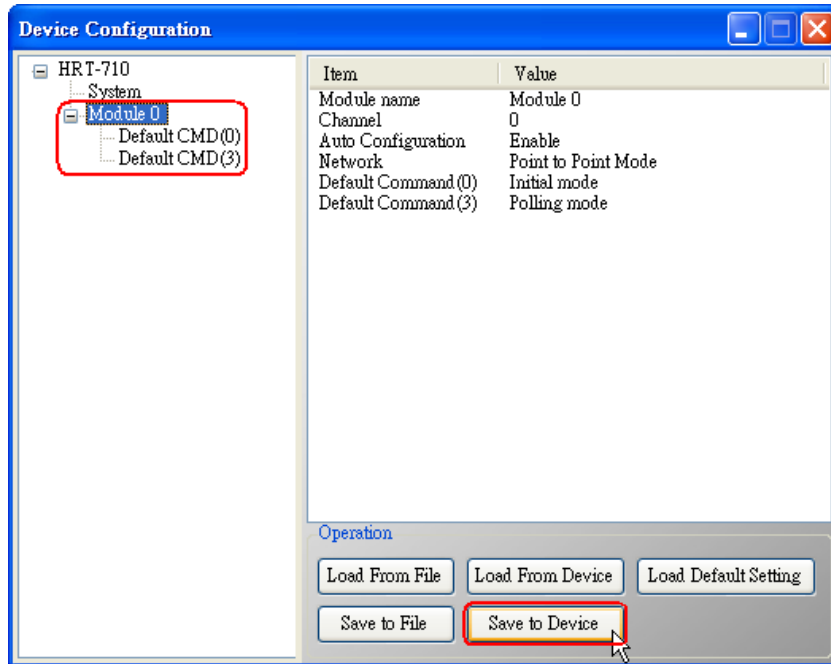

Figure 1-5 "Save to Device" function
(1) Click the "Save to Device" button to save the new HART device setting to HRT-710 like Figure 1-5.